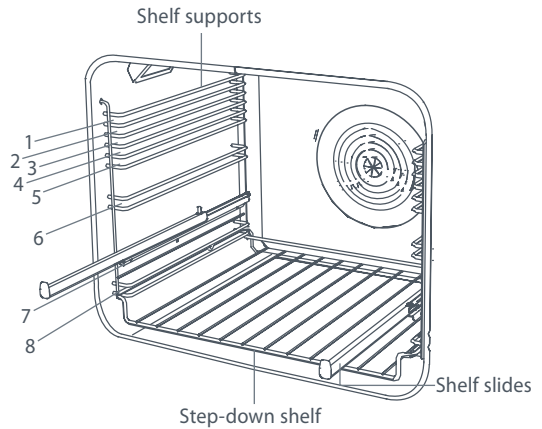

Fig. 6 Shelf positions
- For all shelf positions except 7, which has shelf slides, make sure you fit shelves, the grill/roast pan and the glass tray between the metal runners of the shelf supports, as shown in Fig.6.